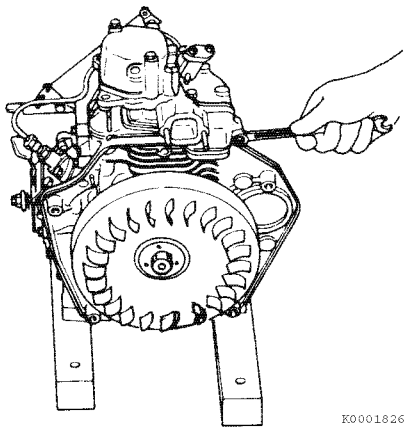

Figure 6-39
15. Remove the air intake manifold (**Figure 6-39**).